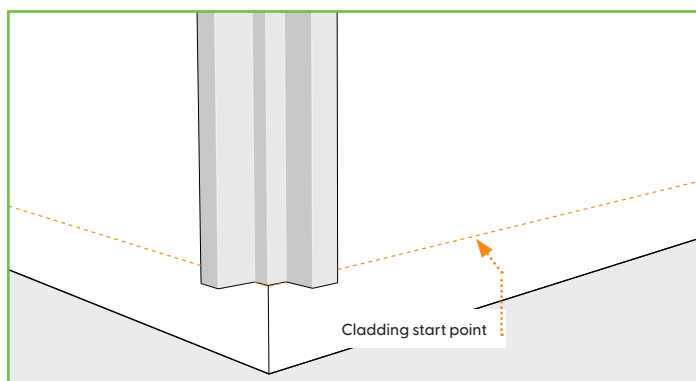

Figure 23.1
1. Place the bottom of the EZ.31 outside corner at the cladding start point and fasten. (Figure 23.1) (see Fastening Info).